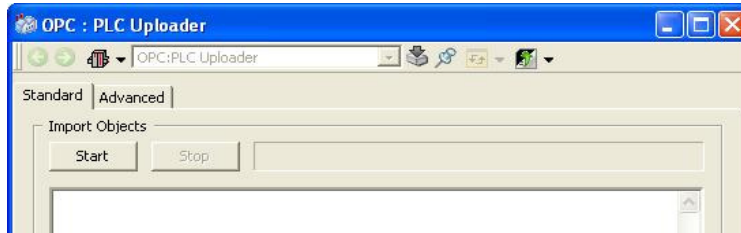

Figure 122. Start of PLC Uploader
1. Click **Start** to initiate an unconditional Retrieve (OPC server data collection) and Append (creating PLC Connect aspect objects) operation. Refer to Figure 122.